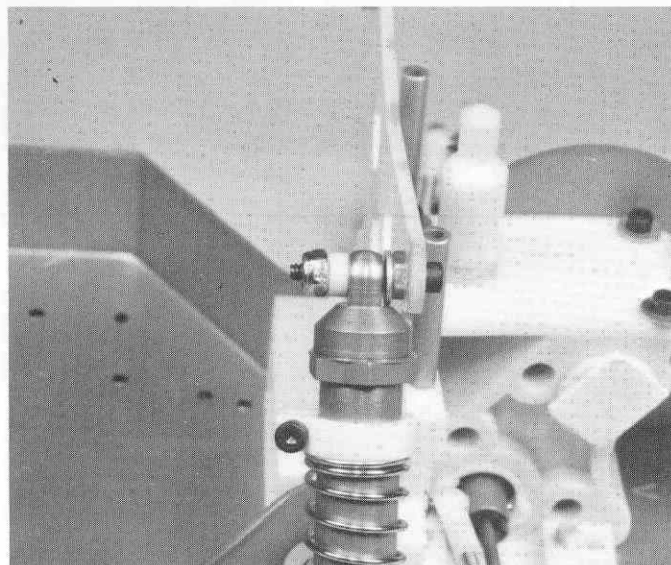

Fig. 137
□ **Fig. 137** Install a locking nut next. Do not overtighten the nut, it is only necessary for the nut to take up the end play.